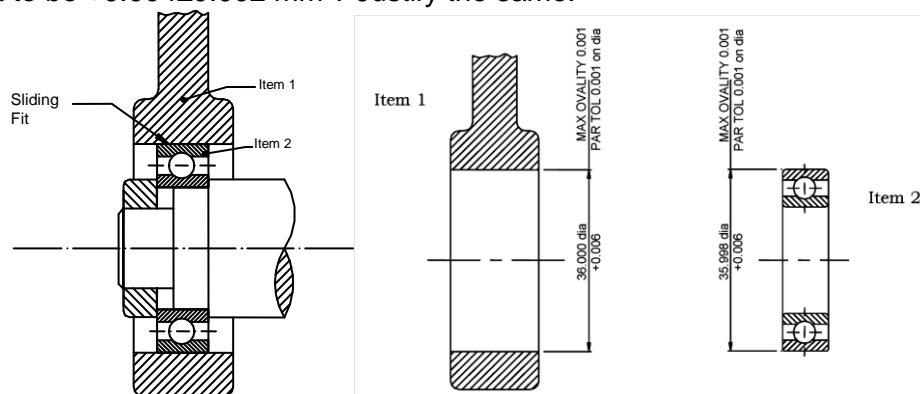

Figure 2
3. The following two components as shown in Figure 2 are to be assembled with a tolerance of fit $+0.002 \pm 0.002$ mm. Design a selective assembly structure and justify the same. Is there any change in selective assembly structure, if the tolerance of fit is set to be $+0.004 \pm 0.002$ mm? Justify the same.